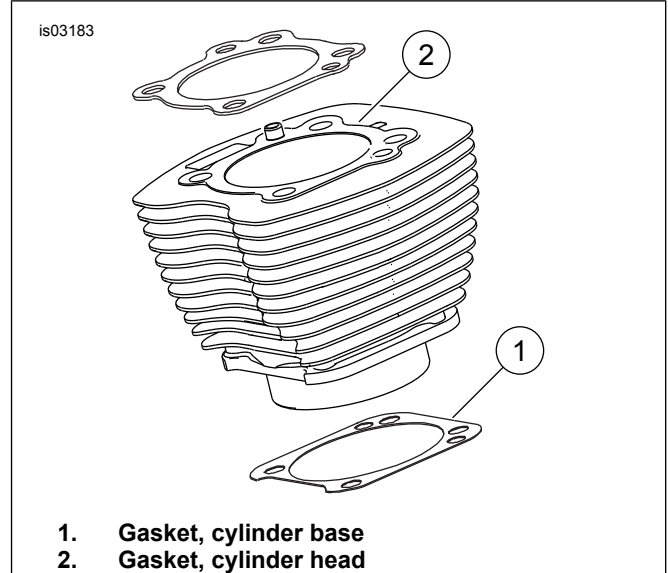

Figure 1. Cylinder Gaskets
See Figure 1. The 4.060 in cylinder base gasket (1) and cylinder head gasket (2) eliminate the need for O-rings. Do not use O-rings on cylinder dowels or cylinder spigots.